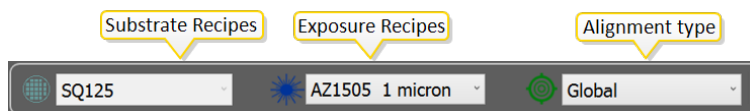

Figure 3-140 Quick selection bar
4. Select alignment type **Global** in the quick selection bar, see **Figure 3-140 below**.